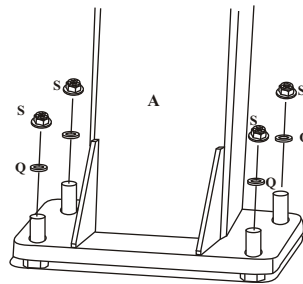

FIGURE 1B
- B. Place the Main Post(A) over the J-Bolts. Slide a 16mm Thick Washer(Q) and thread a 16mm Flange Nut(S) to each J-bolt. Tighten the Nuts only a few turns onto the J-Bolts as shown in FIGURE 1B.
- C. If the Main Post (A) is not exactly vertical, adjust the 16mm J-Bolt Hex Nuts(R) located under the Post base. Tighten all of the Flange Nuts(S) when Main Post(A) is vertical.